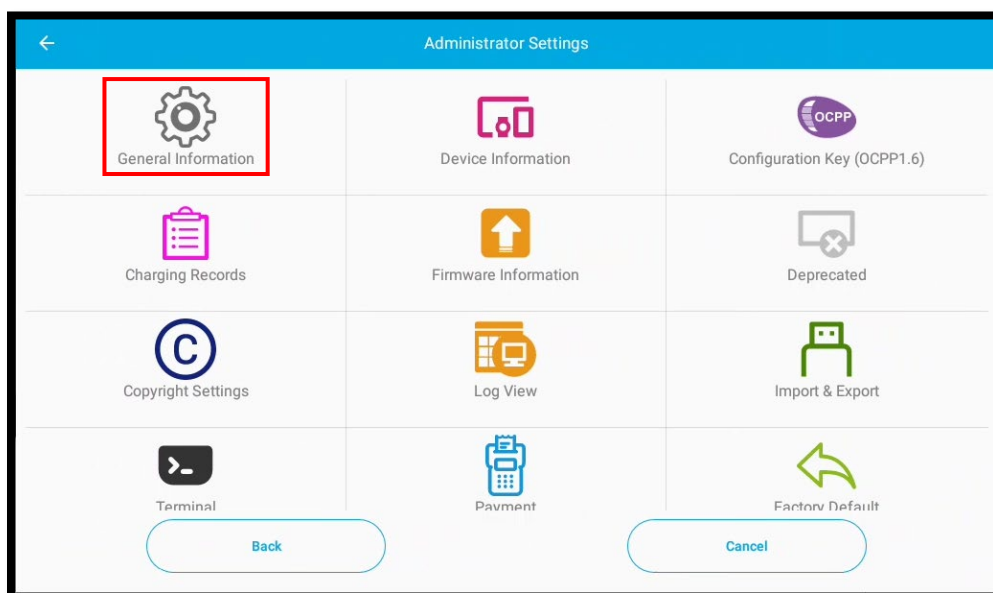
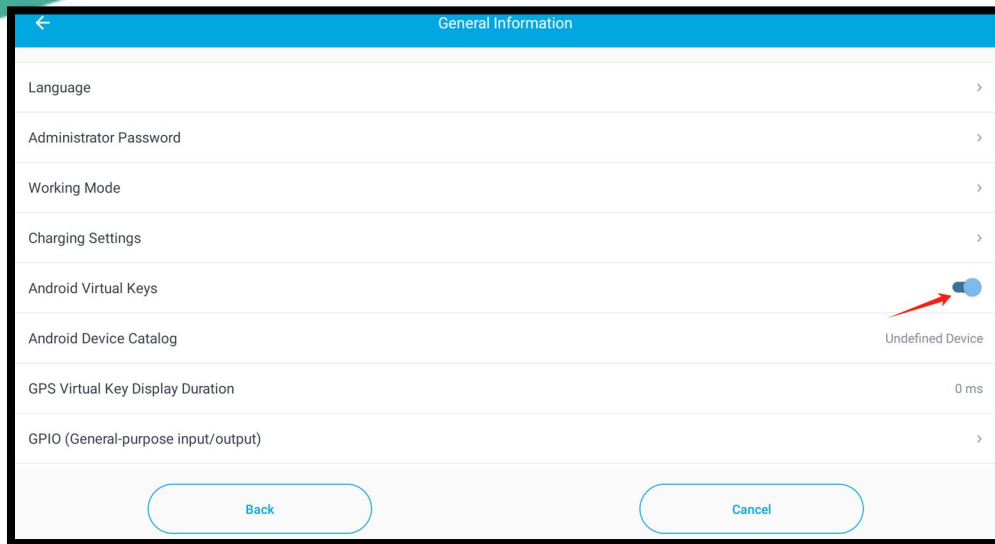

Figure 3.4 Administrator Settings Page
Figure 3.5 Android Virtual Keys Option Turned On
- 3) On **Settings** page (administrator settings menu), select **General Information** (**Figure 3.4**), then turn on the option **Android Virtual Keys** (**Figure 3.5**).